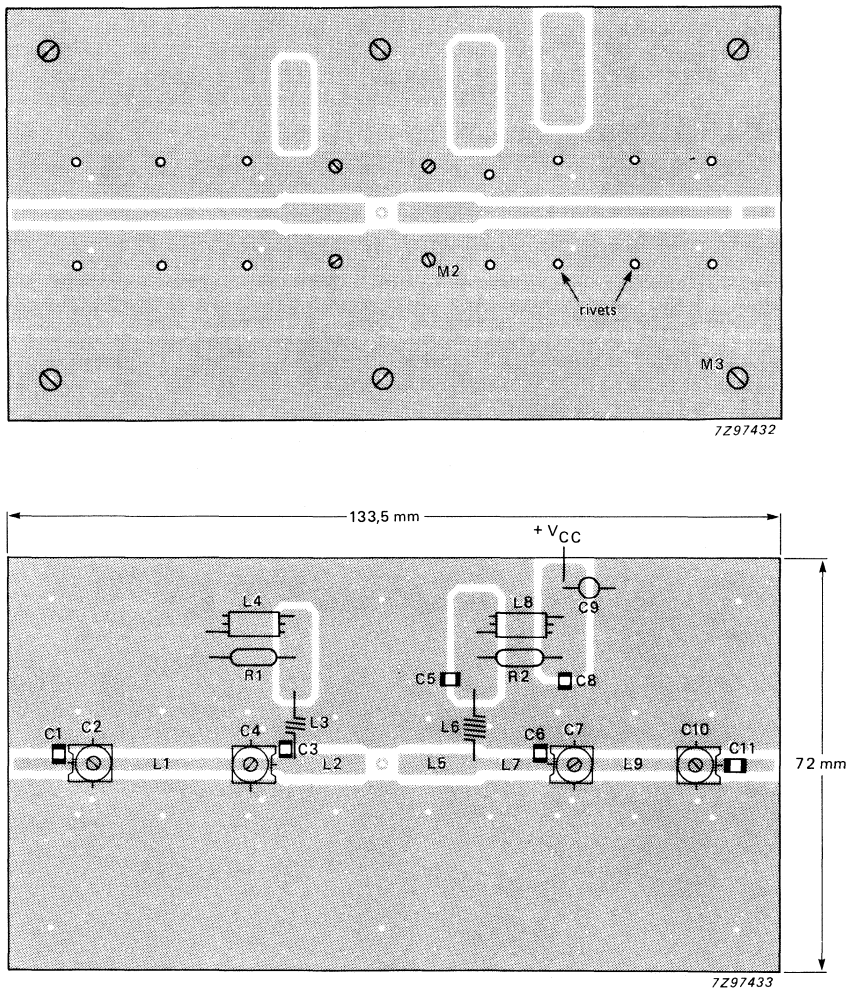

Fig. 4 Printed circuit board and component lay-out for 900 MHz class-B test circuit.
* Device mounted on a printed circuit board (see Fig. 4).
(transistor mounted on printed circuit board, shown in Fig. 4, without applying an external heatsink).
The device is capable of withstanding a full load mismatch ($V_{SWR} = 50$; all phases) at rated load power up to a supply voltage of $9,0 \text{ V}$ at $T_a = 25 \text{ }^\circ\text{C}$. Device mounted on a printed circuit board (see Fig. 4).